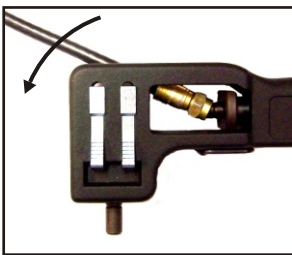

Figure 1
Step 1. (Fig.1) With the proper IPT tip assembled in the tool and the tool in the open position (tool handle on the bottom), place the cable and connector into the tool opening over the plunger tip. Apply a downward pressure on the cable and connector to allow the split jaws to secure the cable. The cable and connector will now be in position between the plunger tip and the split jaws.